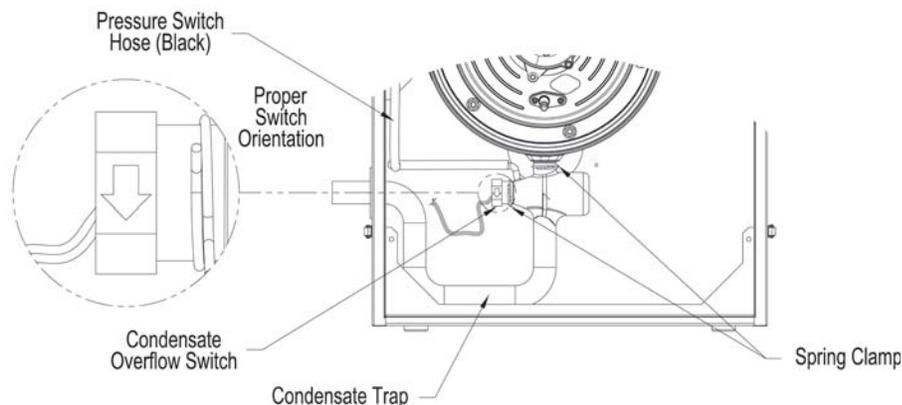

Figure 40: Condensate Overflow Switch Orientation
- e. Apply silicon sealant to the replacement switch threads and install the switch into the trap body making sure it is properly oriented - the arrow molded into the switch hex end side must face down for proper switch operation. See Figure 40 "Condensate Overflow Switch Orientation" for details.
overflow switch threads and the switch is properly oriented relative to the trap body - the arrow molded into the switch hex side end must face down for proper switch operation. See Figure 40 “Condensate Overflow Switch Orientation” for details.